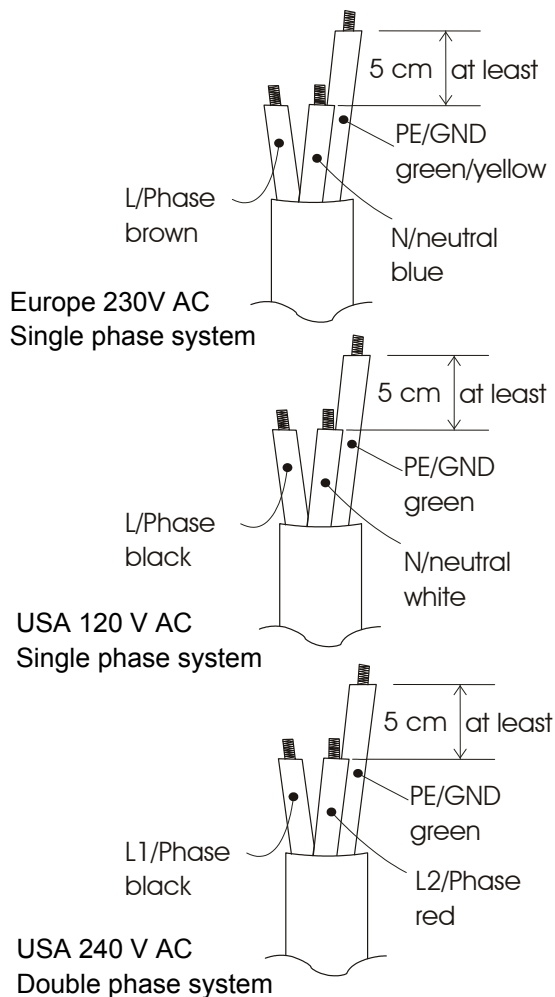

Figure 11: Wiring
1. Loosen the two Phillips screws A and B that secure the front cover plate (1) for two turns.
2. Slide the front cover plate (1) from the cabinet (downwards).
The wiring is connected inside the connection compartment. If necessary, the cabling can be fed from the top to the bottom side of the cabinet along the back of the cabinet. Always feed the wiring through the cable glands (fig.1 ref. 5) of the cabinet, and then connect the wiring to the terminals. Cut the wiring as shown in figure 11. Strip the conductors for 8 mm.